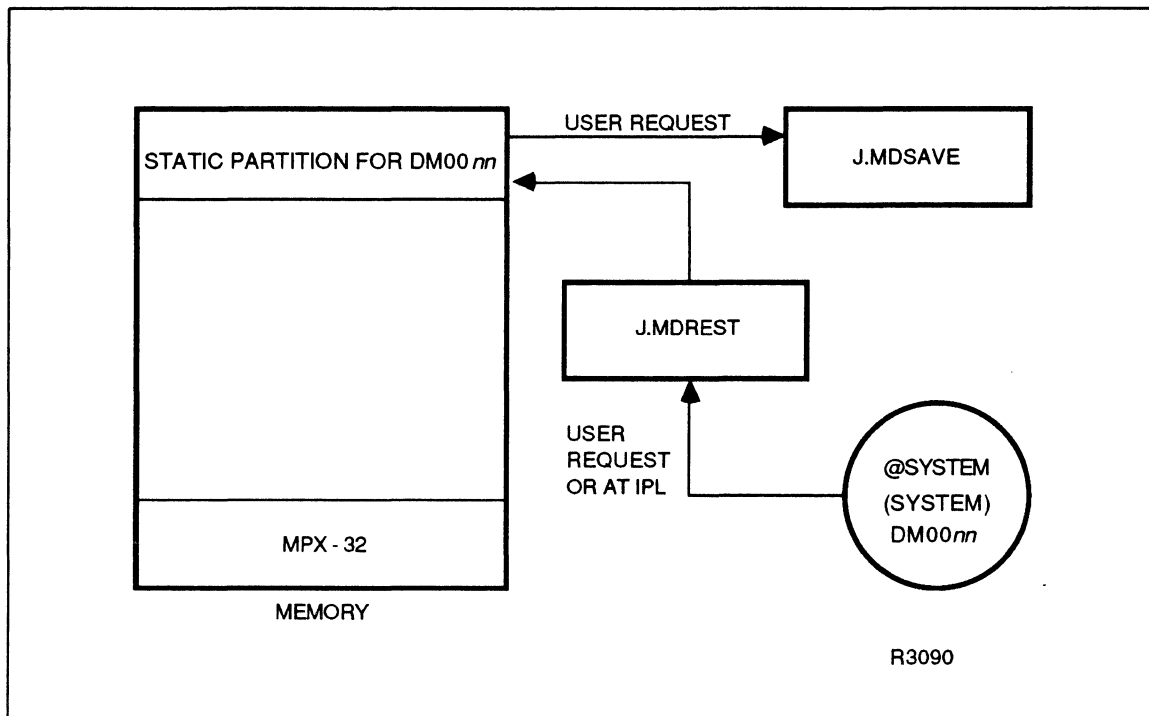

Figure 10-4
The contents of the specified memory disk are saved to a system file named @SYSTEM(SYSTEM)DM00*nn*. See Figure 10-4.
J.MDREST restores all unmounted memory disks that have been saved by the J.MDSAVE system task. Before using J.MDREST, the J.MDSAVE system task must have been used. See Figure 10-4. To activate J.MDREST, logon as the system administrator, then type: